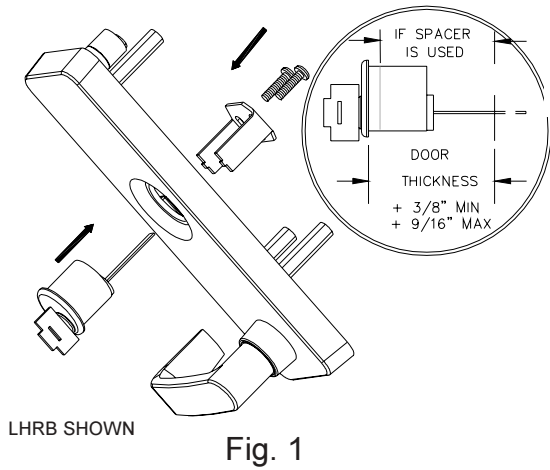

Fig. 1
1. Assemble the rim cylinder (not included) through the escutcheon and the cylinder retaining bracket as shown in **Fig. 1**. Add cylinder spacer or cut the tailpiece as shown.